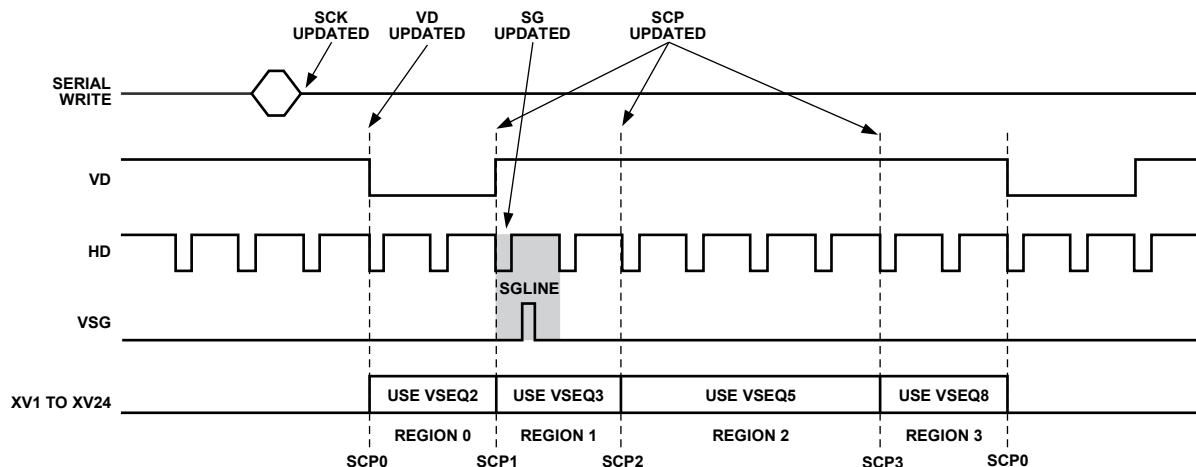

Figure 87. Register Update Locations (See Table 28 for Definitions)
- **SCP Updated**—At the next SCP where they are used, the V-pattern group and V-sequence registers are updated. For example, in Figure 87 this field has selected Region 1 to use VSEQ3 for the vertical outputs. This means that a write to any of the VSEQ3 registers, or any of the V-pattern group registers, which are referenced by VSEQ3, updates at SCP1. If multiple writes are made to the same register, the last one done before SCP1 is the one that is updated. Likewise, register writes to any VSEQ5 registers are updated at SCP2; register writes to any VSEQ8 registers are updated at SCP3.
It is recommended that the registers in the configurable address area not be written within 36 pixels of any HD falling edge where a sequence change position (SCP) occurs. See Figure 78 and Figure 79 for examples of what this inhibit area looks like in master and slave modes. This restriction applies to the V-pattern, V-sequence, and field registers. As shown in Figure 87, writing to these registers before the VD falling edge typically avoids loading these registers during SCP locations.